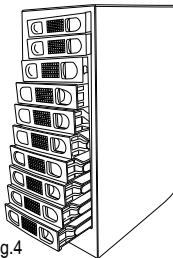

Fig.4
4. Slide the HDD trays back into the 10-BAY Enclosure (Fig. 4).